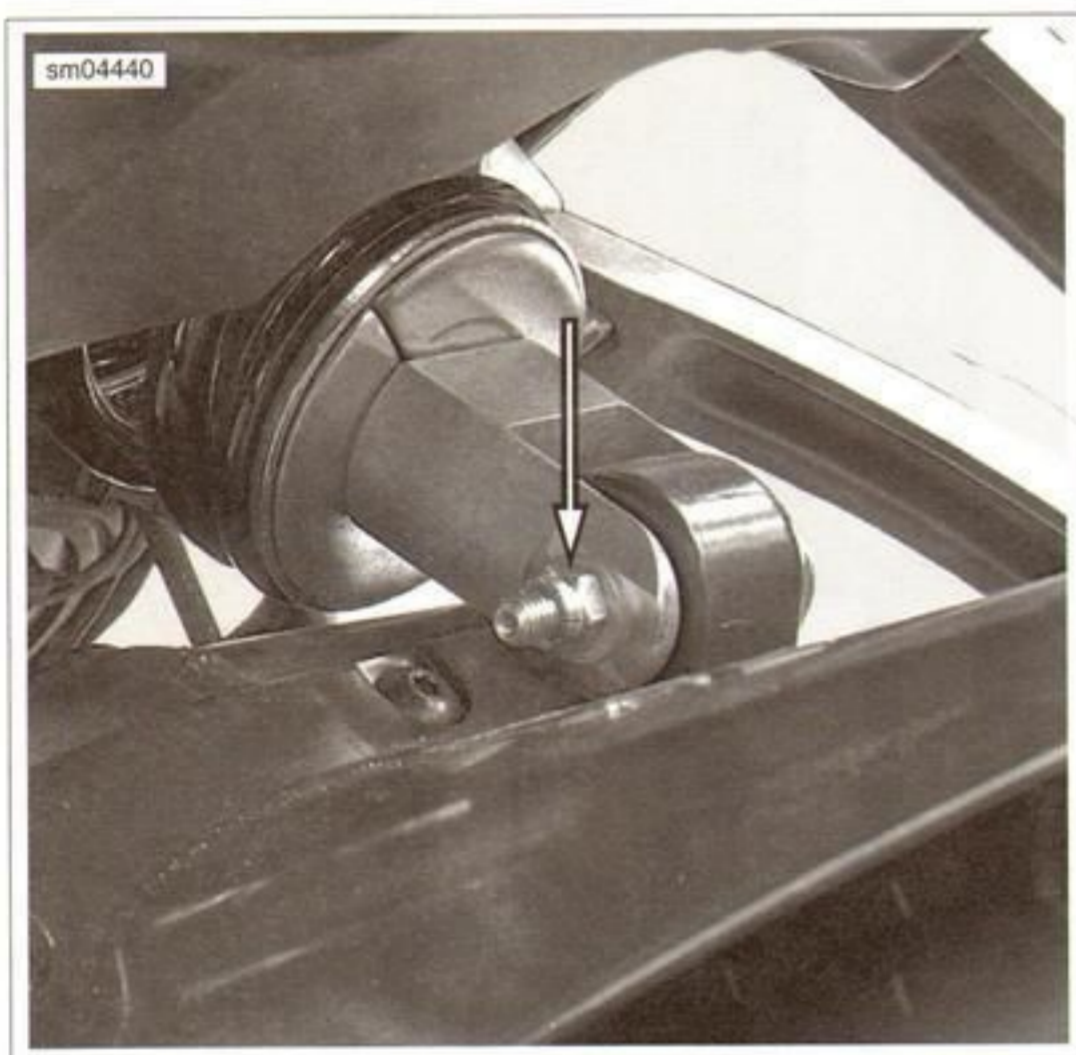

Figure 2-104. Lower Shock Mount
4. See Figure 2-104. Remove lower shock mount locknut, washers, bolt and sleeve.